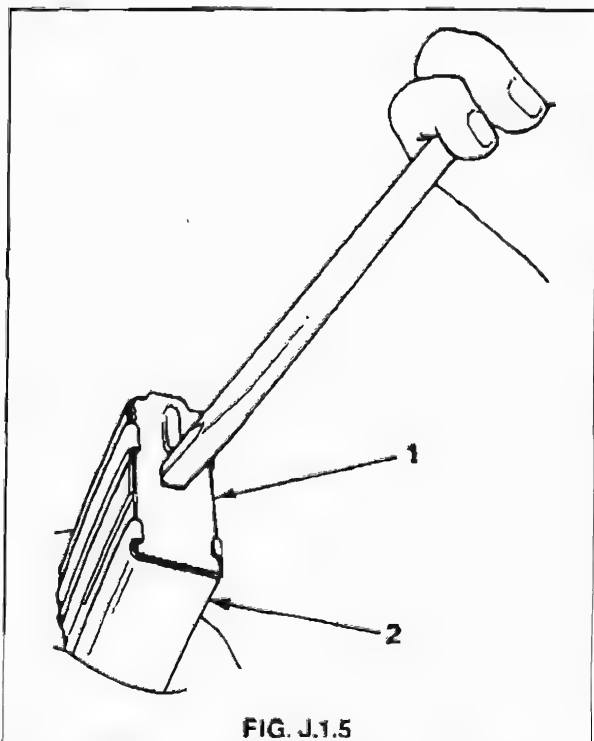

FIG. J.1.5
2. Hold the magazine in one hand, base uppermost. Using a screwdriver or similar implement, depress catch on the spring platform below the recess in the bottom plate. See Fig. J.1.5